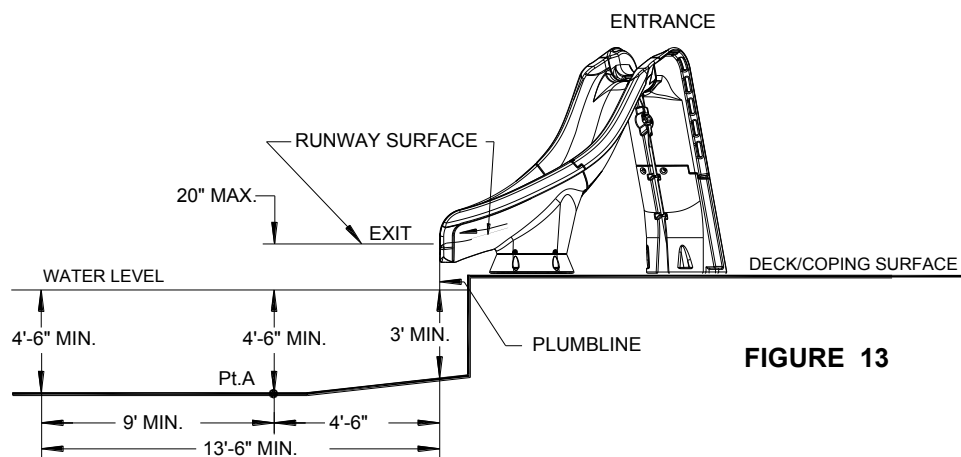

FIGURE 13
- A. The slide exit runway surface shall not exceed twenty inches (20") (508 mm) above the water surface as shown in FIGURE 13.
- C. The minimum depth of water below the exit lip of the slide shall be three feet (3') (914 mm) and increase to four feet six inches (4'-6") (1371 mm) at Pt. A, which is a distance of four feet six inches (4'-6") (1371 mm) from the exit lip of the slide as shown in FIGURE 13.
- D. A minimum depth of four feet six inches (4'-6") (1371 mm) shall be maintained at a distance of nine feet (9') (2743 mm) along the extended centerline of the slide from Pt. A. as shown in FIGURE 13.